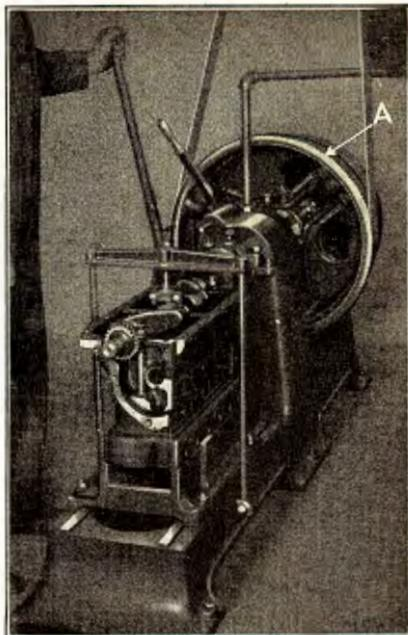

Fig. 171
- 248** The next operation is to run in the crankshaft. This requires a running-in stand (See Fig. 171). With the crankshaft revolving at a speed of approximately 700 R. P. M. the bearings can be burnished in from one to two minutes. The bearings should smoke freely and be liberally oiled while being run in. If they do not smoke it indicates a loose fit and some shims should be removed from each side of bearing caps. Bearings should then be tightened and the running-in operation repeated.
- 249** When sufficiently run in, the shaft can be turned over with the hand wheel on the running-in stand (See "A" Fig. 171) or by means of a 20" turning bar.